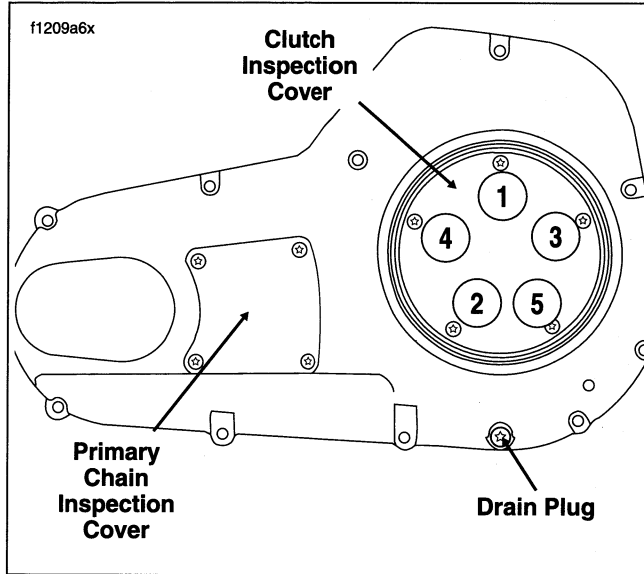

Figure 66. Primary Chaincase Cover
2. See Figure 66. Remove screws and washers that secure clutch inspection cover.
1. See Figure 66. Using a T40 TORX® drive head, remove magnetic drain plug at bottom of primary chaincase cover.